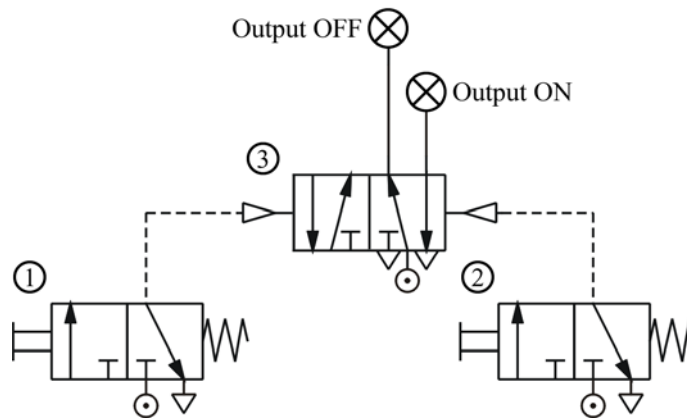

Fig. 25 Memory function circuit
Memory is a common basic function. It can keep a component at a certain state permanently until there is a change of signals. Fig. 25 shows a memory function circuit. When control valve ① is operated momentarily (that is, pressed for a short time), the output signal of the 5/2 directional control valve ③ will be set to ON. The signal will stay that way until control valve ② is operated momentarily and generates another signal to replace it, causing it to stay permanently at OFF.